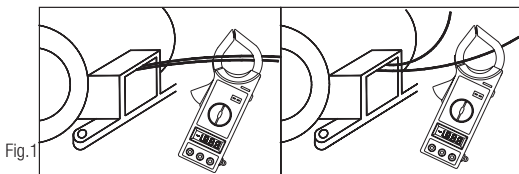

Fig.1
- Turn the rotating selector to the required A~ range. Press the trigger to open the jaws, then insert the conductor (one at a time) (Fig. 1): the jaws will then detect the alternating current flowing through the conductor.